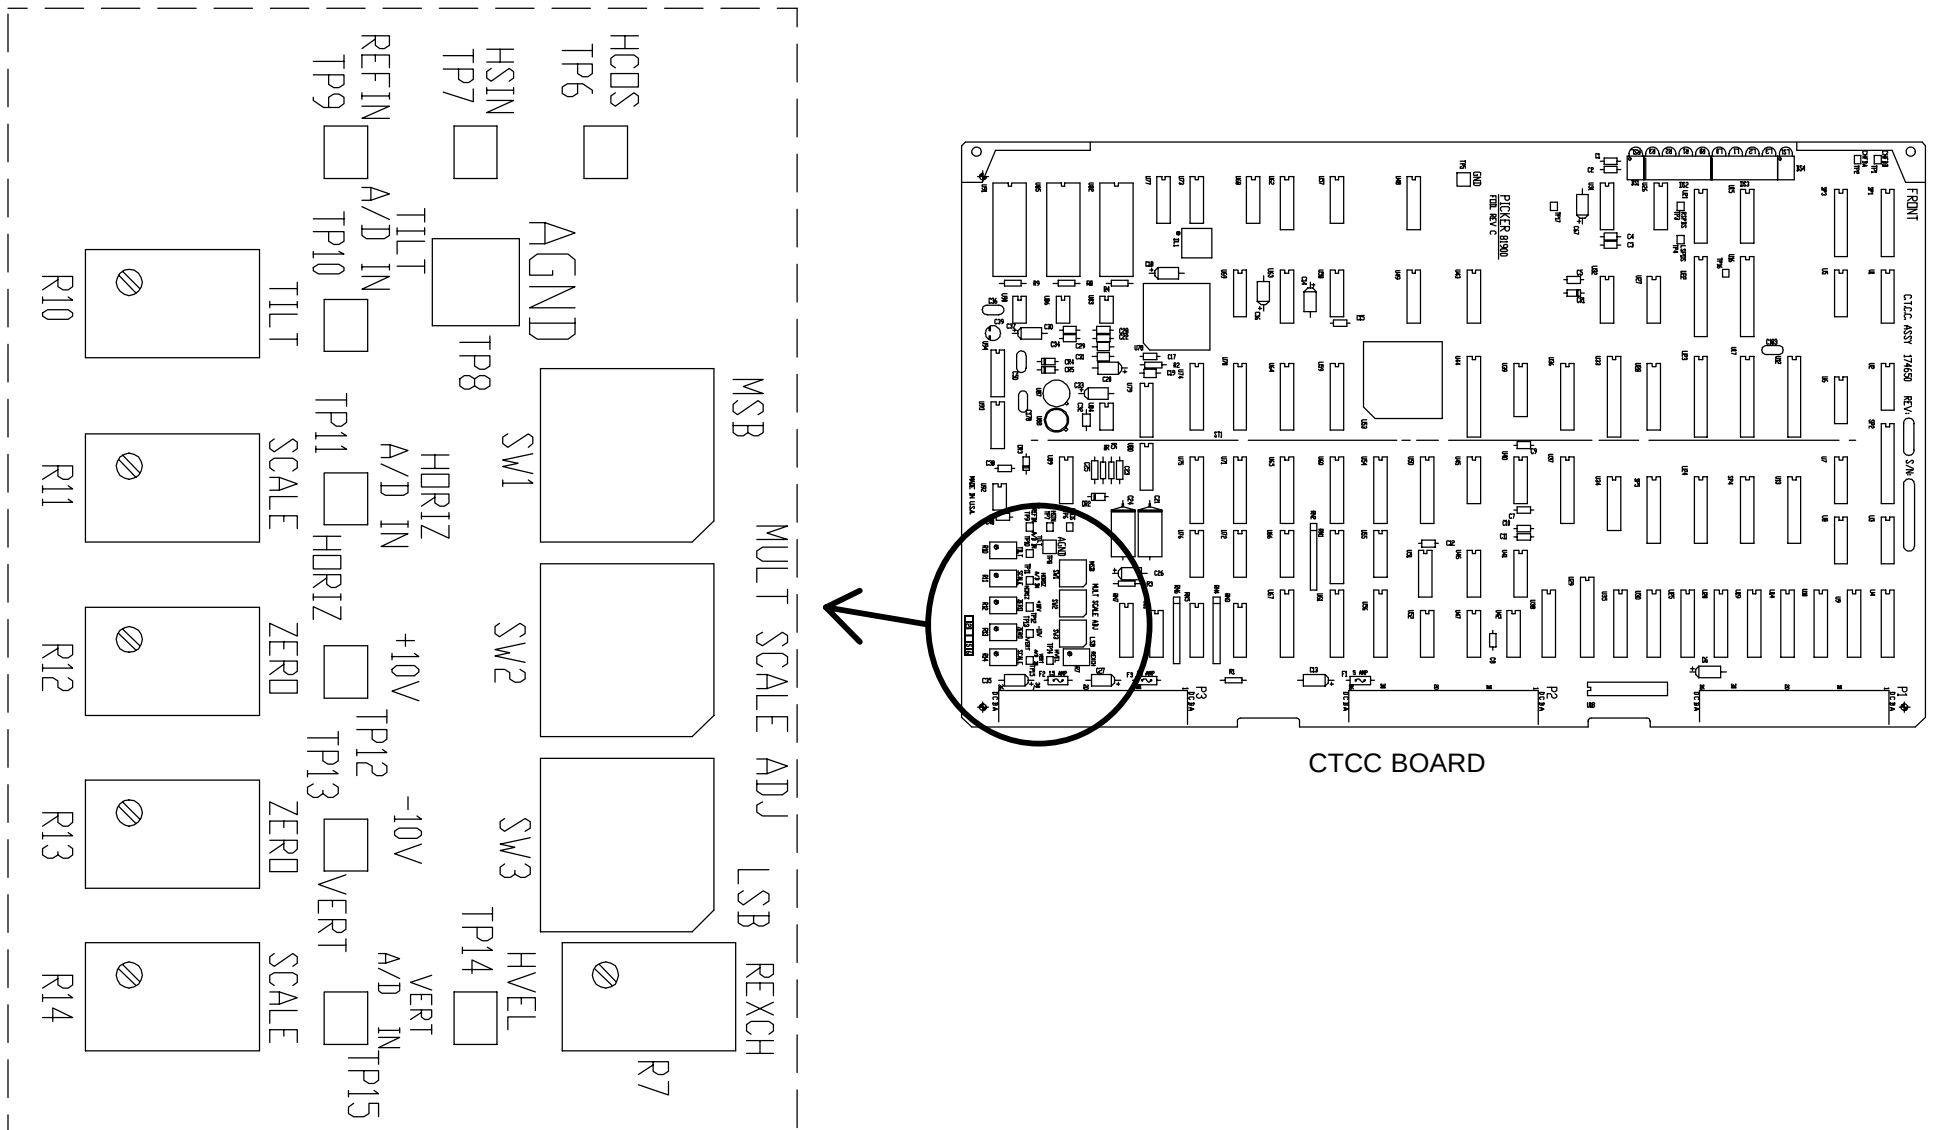

FIGURE 132 CTCC BOARD COMPONENT LOCATIONS DETAIL
10. Refer to Figure 132 for location of adjustment pots on the CTCC. **Follow the on-line instructions:**
11. Refer to Figure 132:
Refer to Figure 132 for switch locations.
Refer to Figure 132.